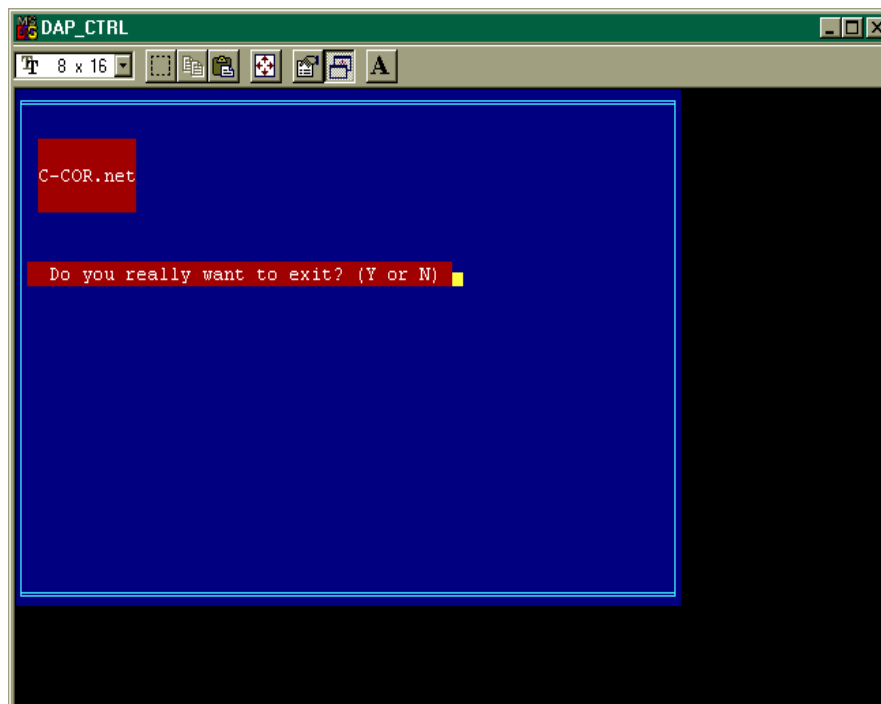

Figure DLP12-1. DAP Exit Confirmation Screen
1. At the *DAP Control Software* Main Menu, press **ESC** to exit the *DAP Control Software*. The DAP Exit Confirmation Screen appears, as shown in Figure DLP12-1.